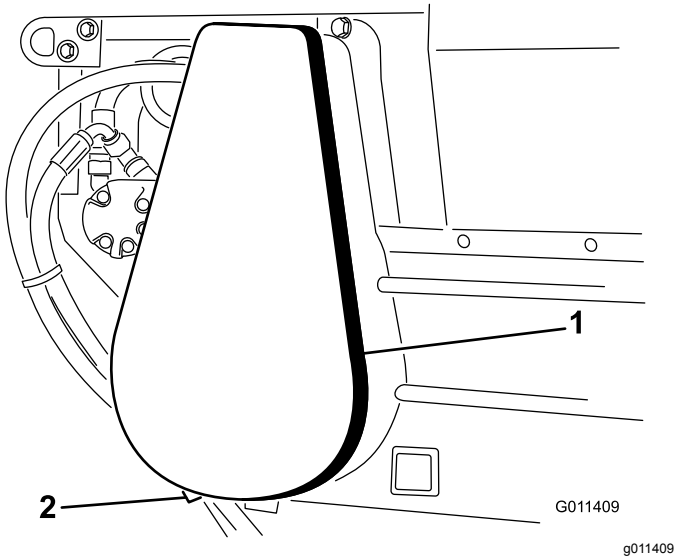

Figure 29
- 1. Remove the chain cover assembly and spacer (Figure 29).